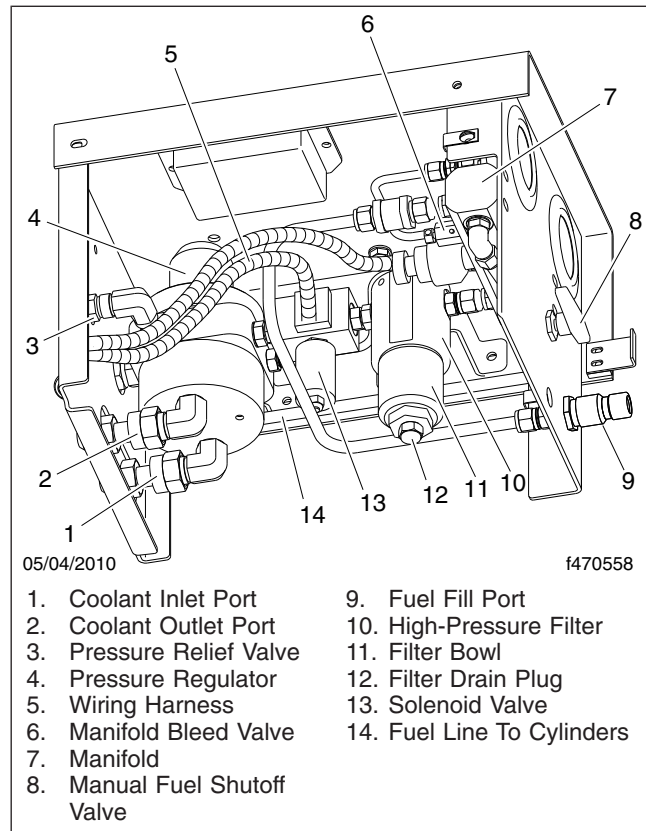

Fig. 11.17, CNG Fuel Panel Components
- 2.4 Slowly open the bleed valve on the manifold to relieve remaining fuel pressure within the system. See Fig. 11.17.